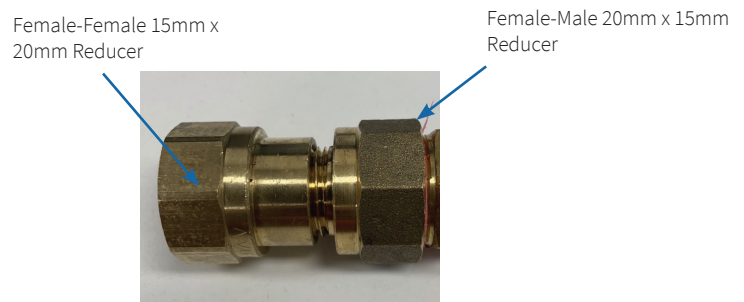

**Fig. 3.17A Flow Control Disc installation**
Insert the flow control disc and the rubber gasket into the Female-Female reducer and then connect the Female-Male reducer as shown in Fig. 3.17A below.
- Step 7: Connect the third male pipe nipple threaded 3/4" to the pre assembled reducers from Fig. 3.17A.